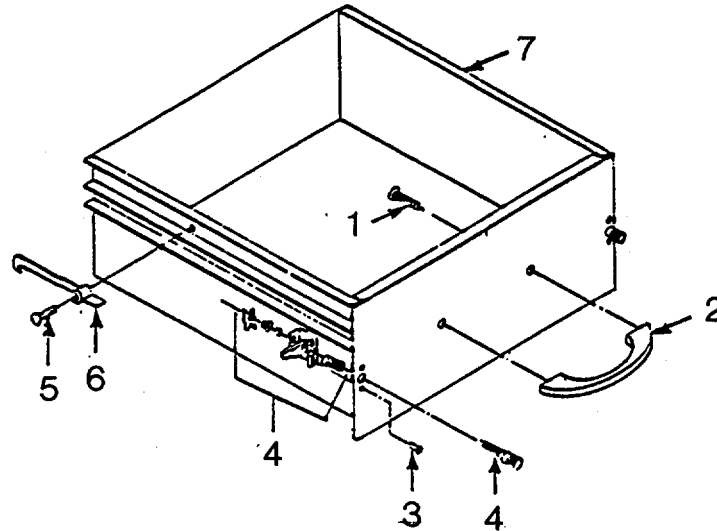

Figure 4-17. Supply Storage Cabinet Drawer
- (7) Remove handle screw (1), (Figure 4-17.) and handle (2).
- (8) Remove rivets (3) and fastener assembly (4).
- (9) Remove rivets (5) and latch (6).
- (10) Remove drawer dents and straighten panels and runners.